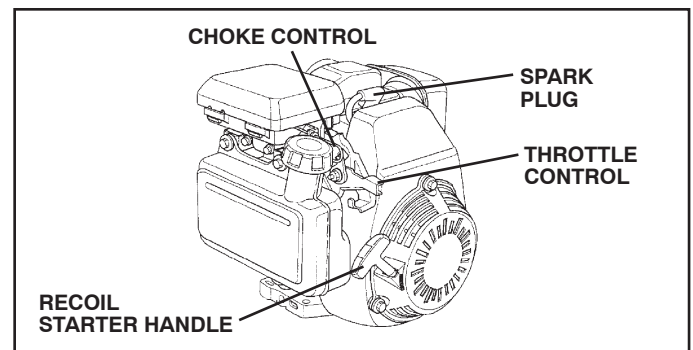

Fig. 14
TO START ENGINE (See Fig. 14)
- You will find tilling much easier if you leave a row untilled between passes. Then go back between tilled rows. (See Fig. 14) There are two reasons for doing this. First, wide turns are much easier to negotiate than about-faces. Second, the tiller won't be pulling itself, and you, toward the row next to it.